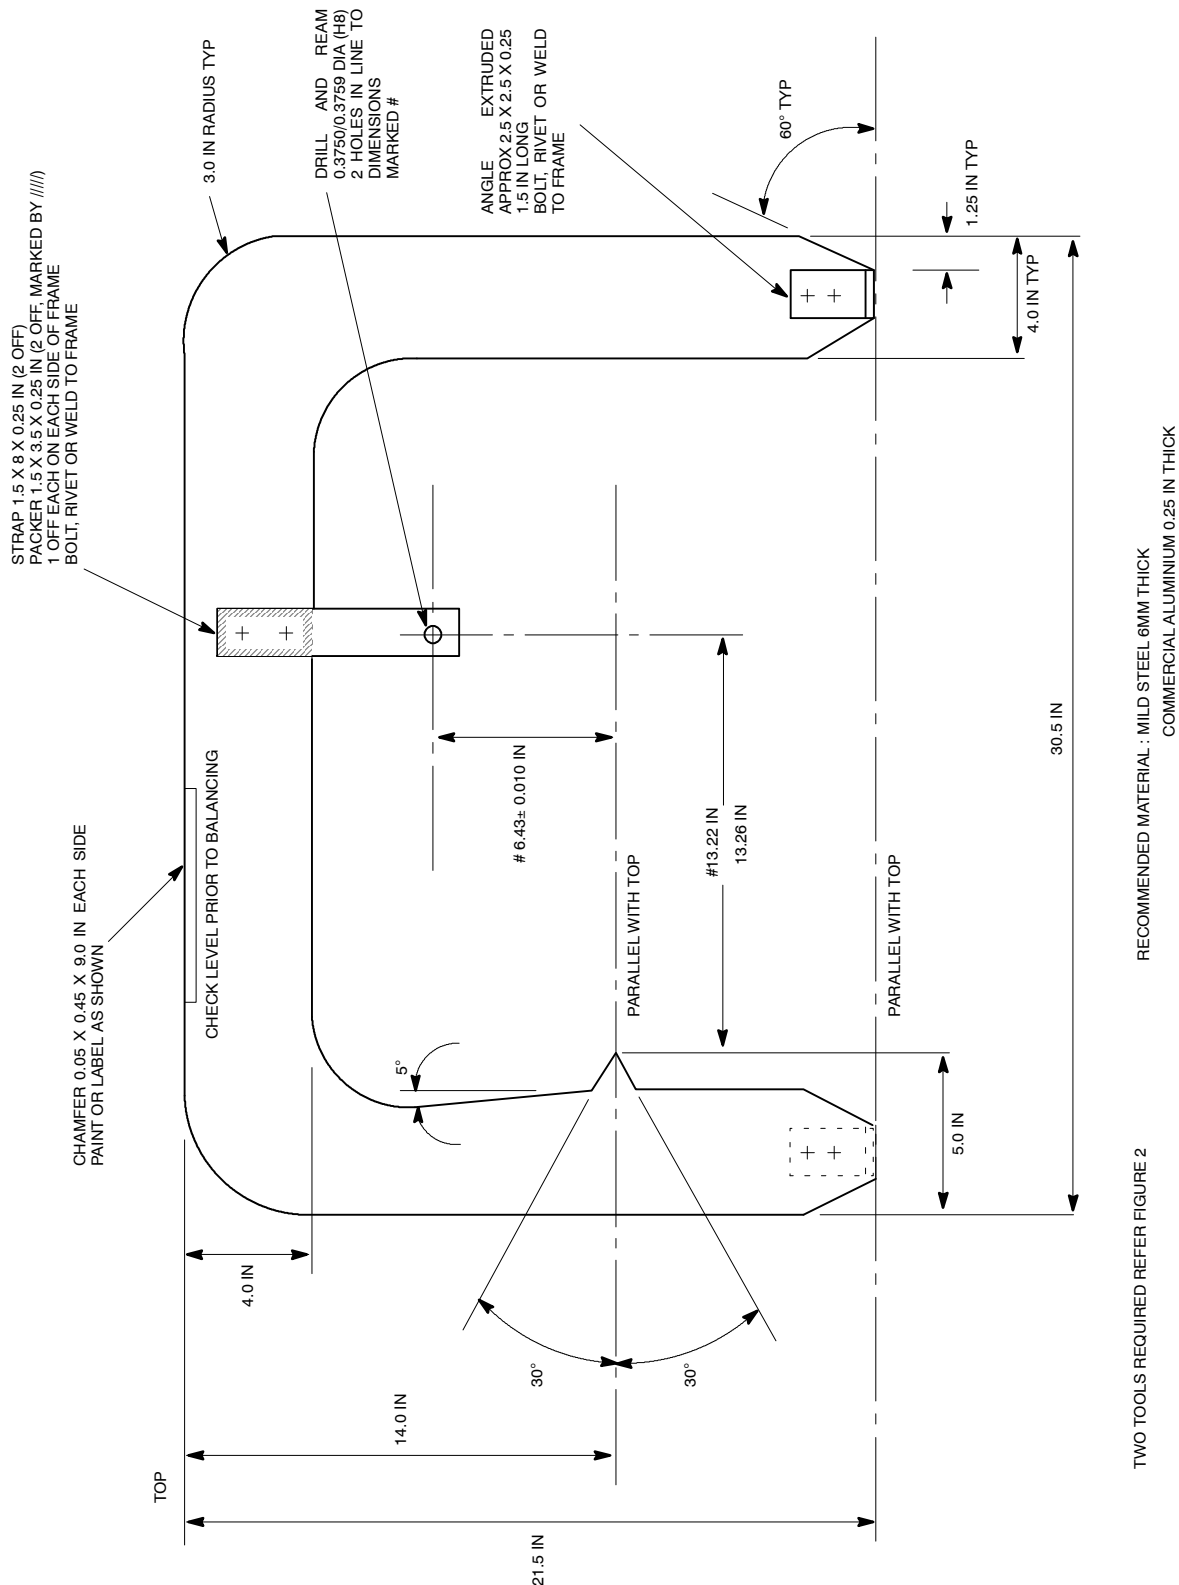

Figure 10 Aileron Static Balancing Tool — Local Manufacture
- (2) Aileron Balancing Tool (Ref Fig 10) — local manufacture